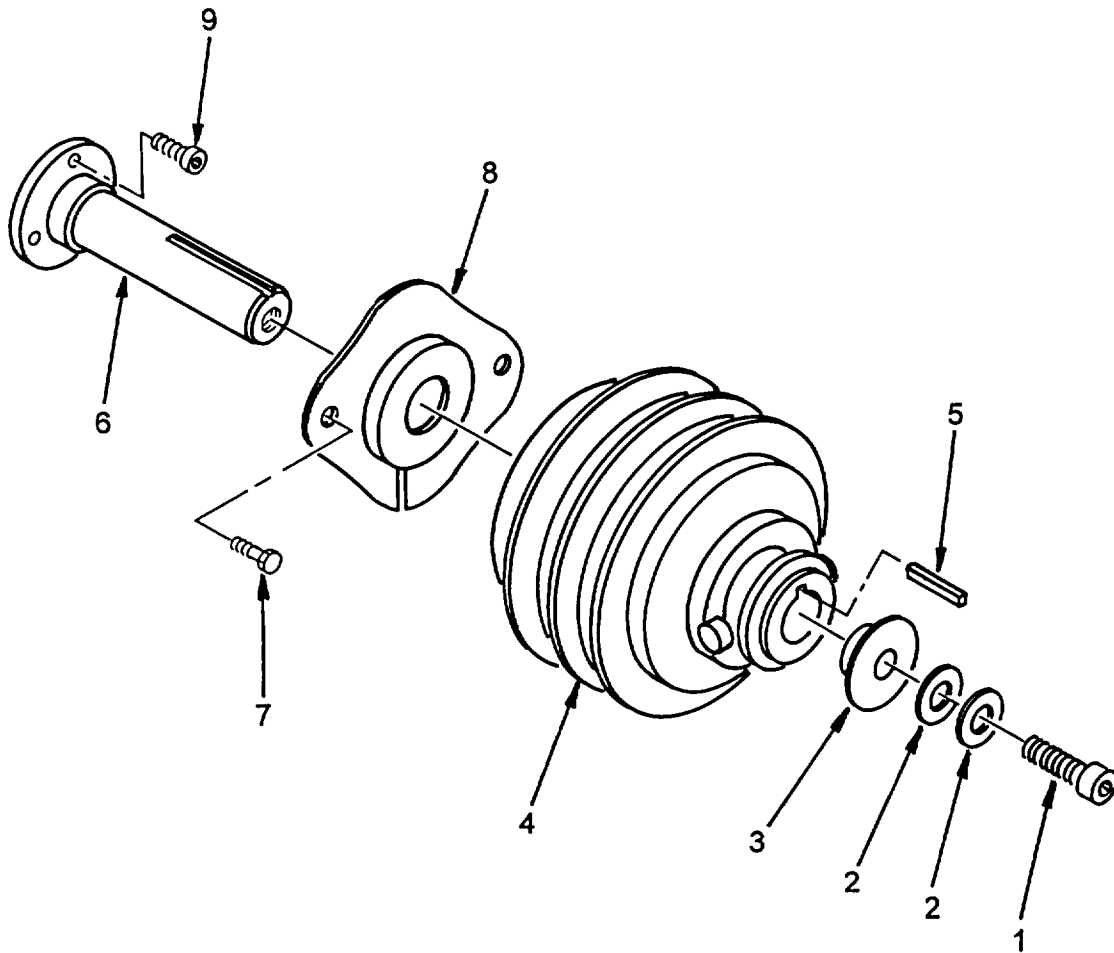

Figure 4-40. Clutch
a. Removal. (Refer to Figure 4-40).
- (1) Remove socket head-cap screw (1), lockwashers (2), and washer (3) from clutch (4). (3) Slide clutch (4) off of extension shaft (6).
- (2) Remove shaft key (5) from extension shaft (6).
- (3) Remove screws (7) and guard (8).
- (4) Remove screws (9) and extension shaft (6)